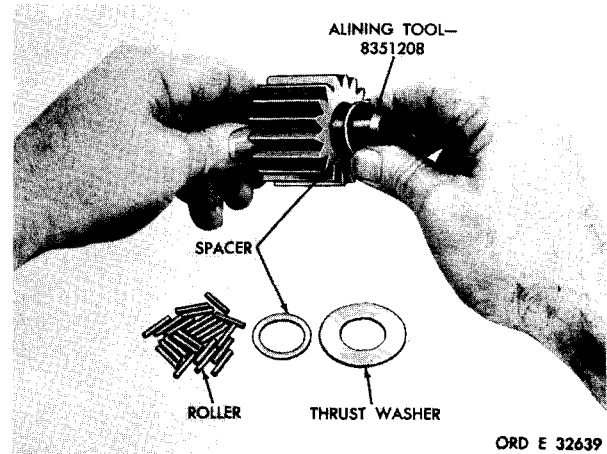

Figure 216. Installing planetary carrier pinion spacer
*f. Place a spacer over the alining tool, and into the pinion, then install 22 additional spindle rollers (fig. 216).
g. Install a spacer and then a thrust washer over the alining tool. Remove the alining tool (fig. 216).